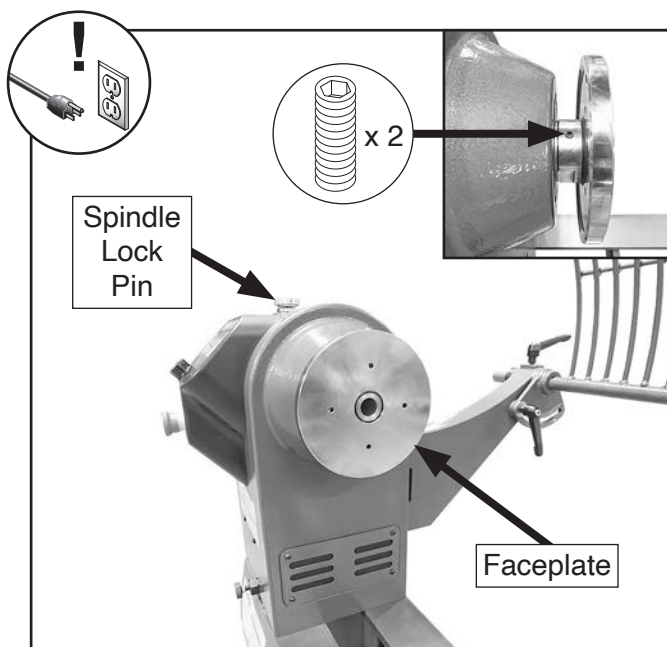

Figure 61. Faceplate installed on spindle.
2. Rotate spindle lock pin to UNLOCKED position (see **Figure 61**).
3. Loosen (2) set screws on faceplate, as shown in **Figure 61**.
2. Rotate spindle lock pin to LOCKED position (see **Figure 61**).
3. Loosen (2) set screws on faceplate, then thread faceplate clockwise onto spindle shaft until faceplate is secure against shoulder on spindle shaft (see **Figure 61**).
4. Tighten (2) set screws on faceplate to secure.